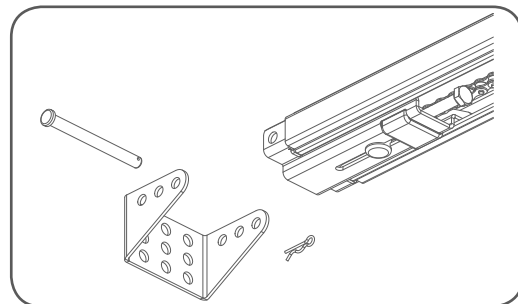

fig 12
- Attach the C-Rail assembly to the wall bracket with the 90mm long clevis pin and secure with the supplied snap pin (**Fig. 12**)
- Attach the bracket and C-Rail with supplied pins (Fig. 12).